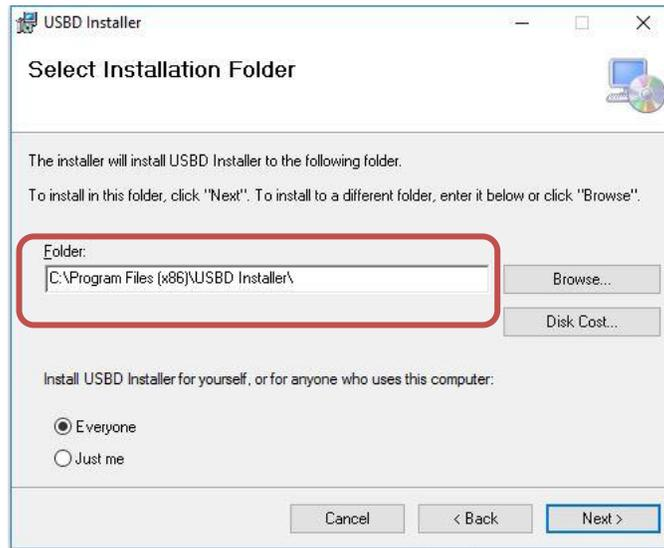

Figure 11 Driver installer location
12. Follow the instructions for the installer and click Next button. Take note of the USBD_Installer folder location, the driver installer will be copied there (Figure 11).